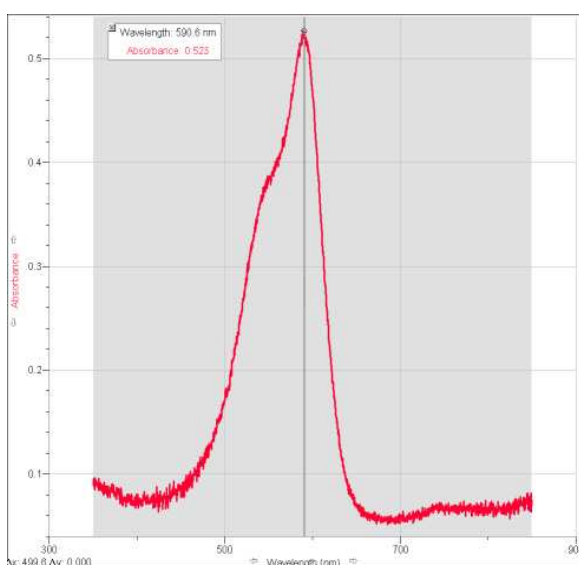

Figure 3. Spectrum of Crystal Violet with the Examine Tool.
1. Replace the reference cuvette with your sample. Click on . Check the baseline of your spectrum. For example, notice in Figure 3 that the baseline has some noise. If the baseline appears to be at exactly zero absorbance and shows no noise, then the baseline is actually negative and is “chopped off” by the software. On the other hand, check if the baseline is at an absorbance significantly above zero. In either case, if the baseline for your spectrum is significantly different from zero, gently reposition the cuvette to minimize the offset from zero.
2. You can read the absorbance using the Examine tool, by clicking on . Then move the cursor along the spectrum. The wavelength and absorbance will be displayed in the new dialog box in the data window, Figure 3. For simultaneous multi-constituent determinations, find the wavelengths that give the maximum difference in absorbance between the species. Use these wavelengths throughout your experiment.